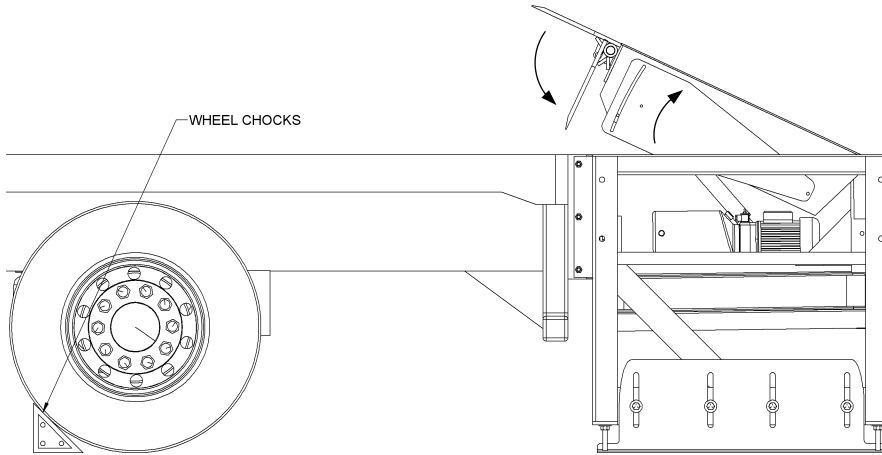

Figure 11: Raising Leveler from Trailer Bed
1. Press the UP button until lip is fully pendent (Figure 11).